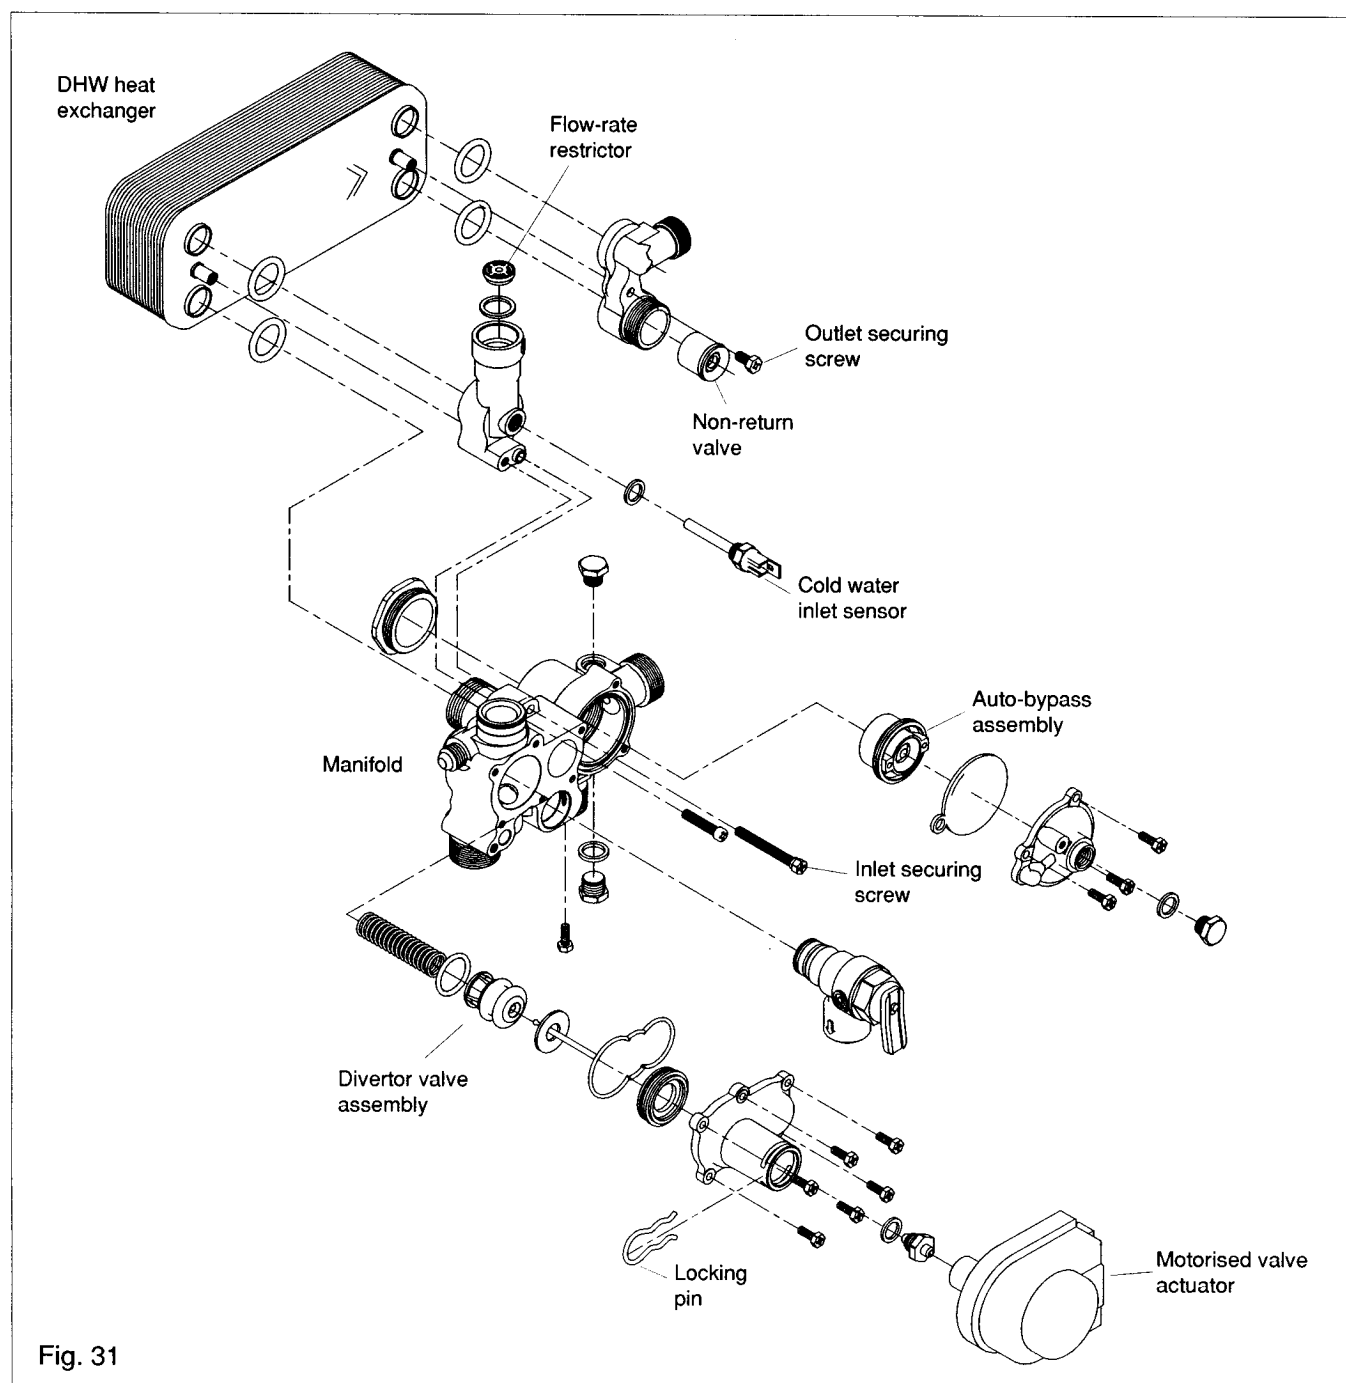

Fig. 31
6.16 DOMESTIC HOT WATER HEAT EXCHANGER (see fig. 31)
6.17 MOTORISED VALVE ACTUATOR (see fig. 31)
6.18 DIVERTOR VALVE ASSEMBLY (see fig. 31)
6.21 COMBUSTION COVER (see fig. 31)